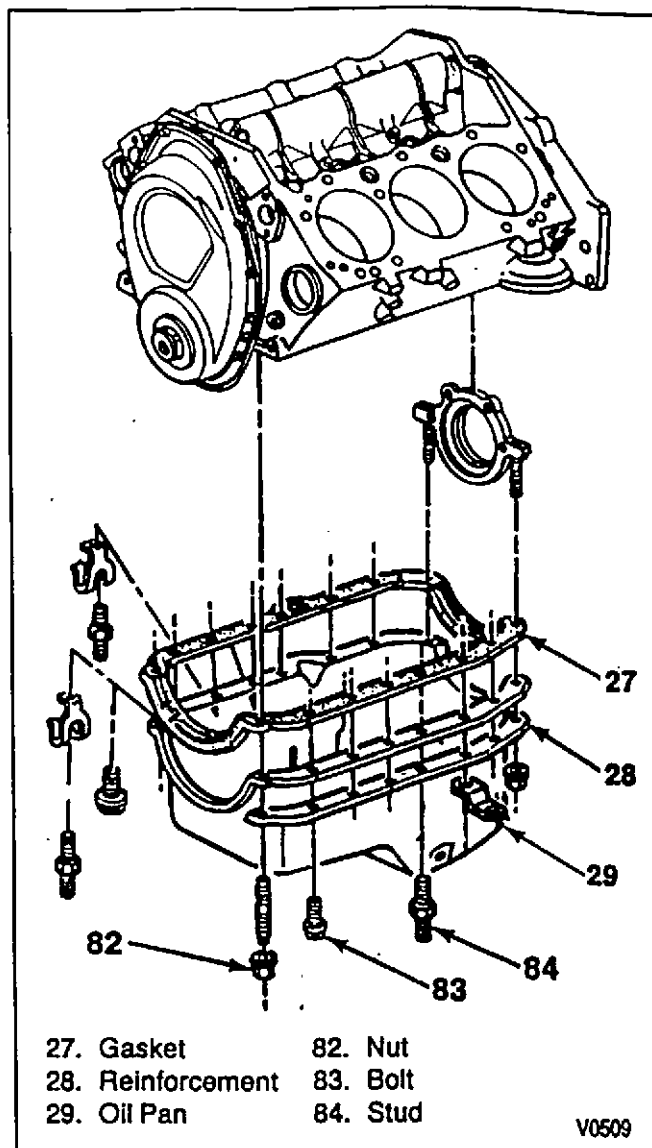

Figure 44—Oil Pan and Components
Install or Connect (Figure 44)
- Apply RTV sealant (GM P/N 12346141) or equivalent to the front cover to block joint and to the crankshaft rear retainer seal to block joint. Apply the sealant about 25 mm (1 inch) in both directions from each of the four corners (figure 44).
1. Oil pan gasket (27) to the block.
2. Oil pan (29) to the gasket (27).
3. Reinforcements (28).